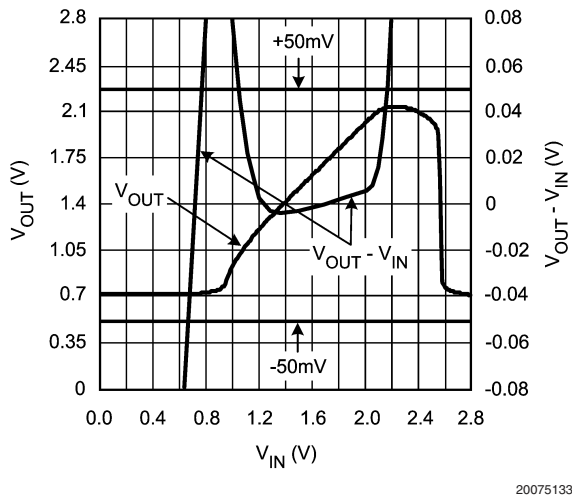
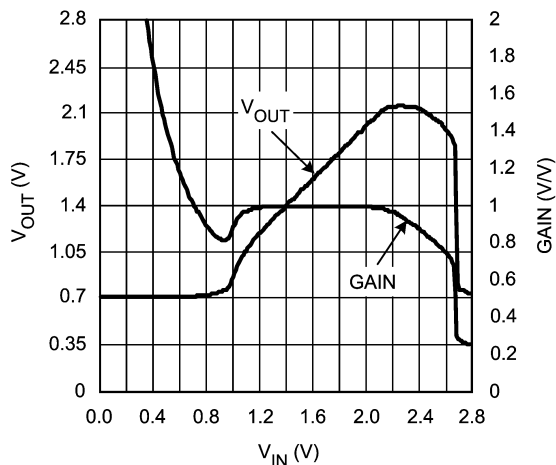

FIGURE 3. $V_{OUT} - V_{IN}$
FIGURE 4. Gain
Due to the internal loop gain of 1, the output will follow the input. The output voltage cannot swing as close to the supply rail as the input voltage. For linear operation the input voltage swing should not exceed the output voltage swing. The restrictions for the output voltage can be examined by the two curves in Figure 3. The curve V_{OUT} (V) shows the response of the output signal versus the input signal and the curve $V_{OUT} - V_{IN}$ (V) shows the difference between the output and the input signal.
In Figure 3 the input signal is swept between both supply rails (0V - 2.8V). The linear part of the plot ' V_{OUT} vs. V_{IN} ' covers approximately the voltage range between 1.0V and 2.0V. If a difference of 50mV between output and input is acceptable, the output range is between 1.05V and 2.15V (see curve $V_{OUT} - V_{IN}$). Alternatively the output voltage swing can be determined by using Figure 4. In the plot 'Gain vs. V_{IN} ' it can be seen that the gain is flat for input voltages from 1.15V till 2.1V. Outside this range the gain differs from 1. This will introduce distortion of the output signal.